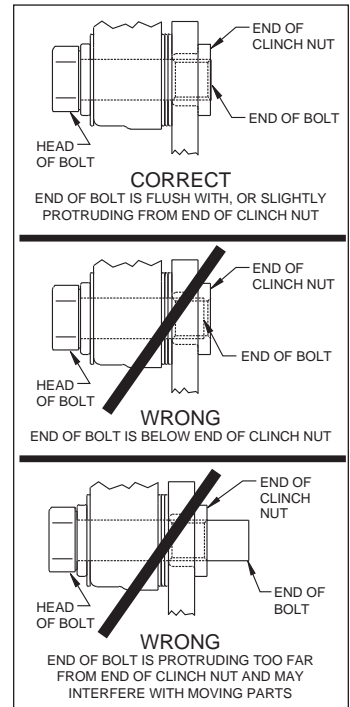

Figure 4. Clinch Nut Engagement Diagram
Assembly Instructions (numbers in parenthesis refer to the parts list and Figures 1 and 2 on the preceding pages): **CAUTION:** All mounting bolts must fully engage clinch nuts. Be sure to check that all bolts are either flush or protruding through flanged side of clinch nut after shimming, Figure 4.
- **NOTE:** This kit contains distinct right and left hand calipers that must be mounted in a specific direction, as described below. Lubricate the caliper mounting studs (24) with lightweight oil. Initially place two .035" thick shims (25) on each stud between the caliper and the bracket, as shown in Figure 1 and Photo 10. Mount the caliper (21) onto the bracket (17) using lock nuts (22) and washers (23), Figure 1. Ensure that the caliper is mounted so that the largest pistons are at the rotor exit end of the caliper, in relation to the direction of rotor rotation. Temporarily tighten the lock nuts and view the rotor through the top opening of the caliper. The rotor should be centered in the caliper, Photo 11. If not, adjust by adding or subtracting shims (20) between the caliper bracket and the spindle bracket. Always use the same amount of shims on each of the two mounting bolts. **NOTE:** The end of each bolt must be flush with or slightly protruding from the head of the clinch nut, as shown in Figure 4. If necessary place spare shims between washer (19) and caliper mounting bracket (17) to achieve the proper clinch nut engagement. Once the caliper alignment and clinch nut engagement are correct, remove the bolts (18) one at a time, apply red *Loctite*® 271 to the threads, and torque to 60 ft-lb.